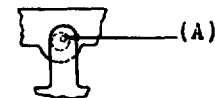

Fig. 2 — Contact Alignment Showing Maximum Permissible Misalignment
2.03 **Front Contact and Back Stop Screw Alignment** — Fig. 2(A): The following requirements shall be met with the end play of the armature taken up in both directions.